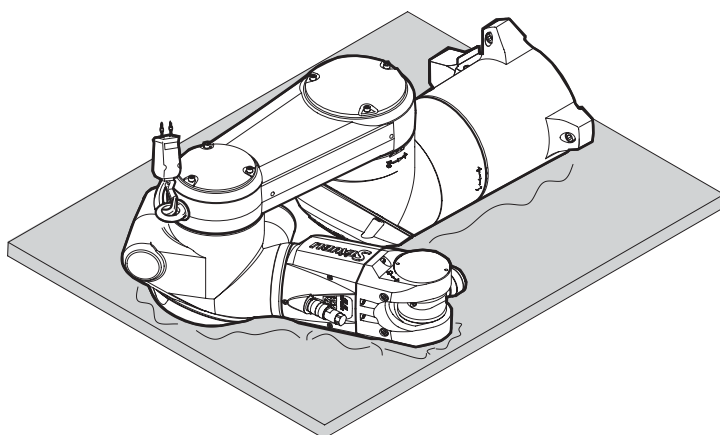

Figure 3.5
- Carefully lay down the arm on a flexible support as shown on figure 3.5.